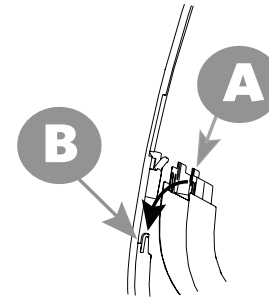
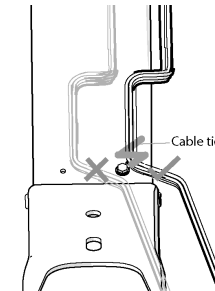

Figure 7
Figure 8
- Make sure cables don't catch on the latch of the forward frame cover (see Figure 7) and are tied to the outside and away from the screw (see Figure 8).
- Make sure the **A** clips on the lower frame cover hook over the **B** clips on the right and left side panels (see Figure 7). Use finesse **not force** to secure the parts together with no gap between them.